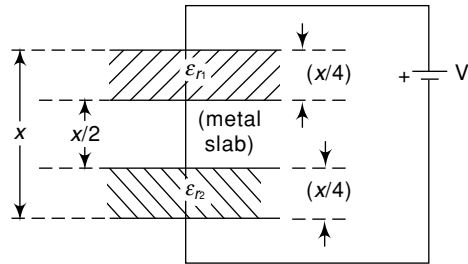

Fig. 1.49 A parallel-plate capacitor (Ex. 1.48)
1.48 Two metal plates form a parallel-plate capacitor with an in-between metal plate of the same material. There are two dielectric medium K_1 and K_2 having relative permittivity ϵ_{r_1} and ϵ_{r_2} respectively as shown in figure (Fig. 1.49). If the metal plate is removed find the work done in slowly removing the plate when a p.d. of (V) volts is applied across the capacitors.
From the given (Fig. 1.49) it is evident that the capacitor consists of two series capacitors C_1 and C_2 when C_1 is formed with ϵ_{r_1} while C_2 is formed with ϵ_{r_2} .